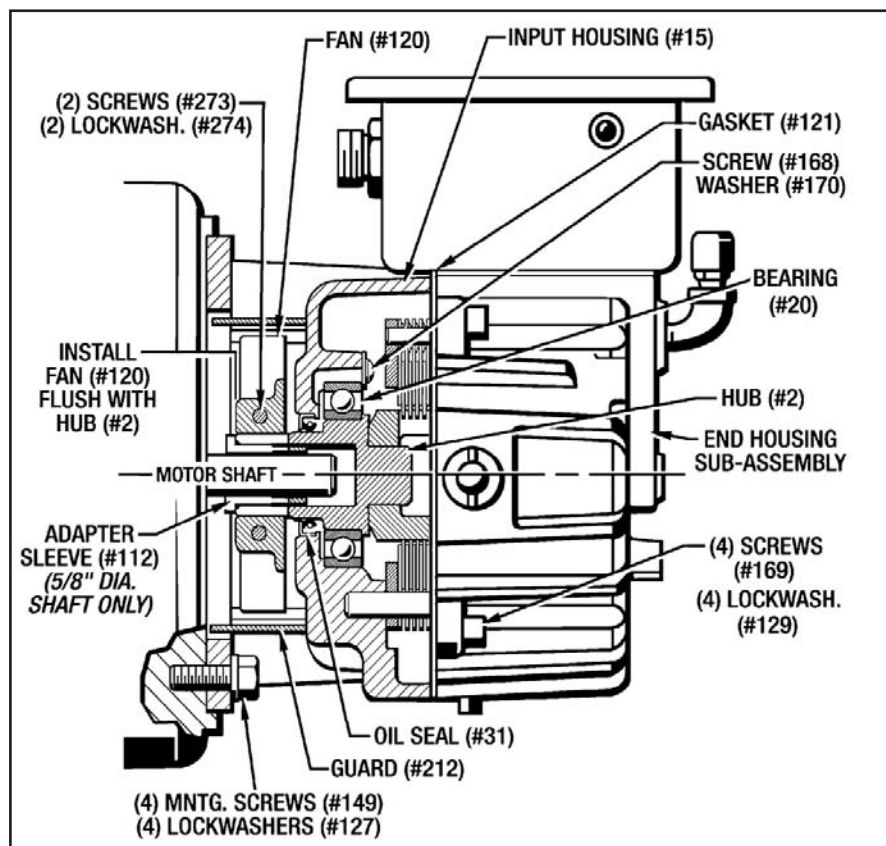

Figure 7.8 - Installing MSB2 Brake Back On The Motor
(See Figures 7.8, 8.1 and 8.2)
9. Position the Fan (#120) on the Hub (#2) up against the shoulder as shown in *Figure 7.8* and just finger tighten the (2) Screws (#273).